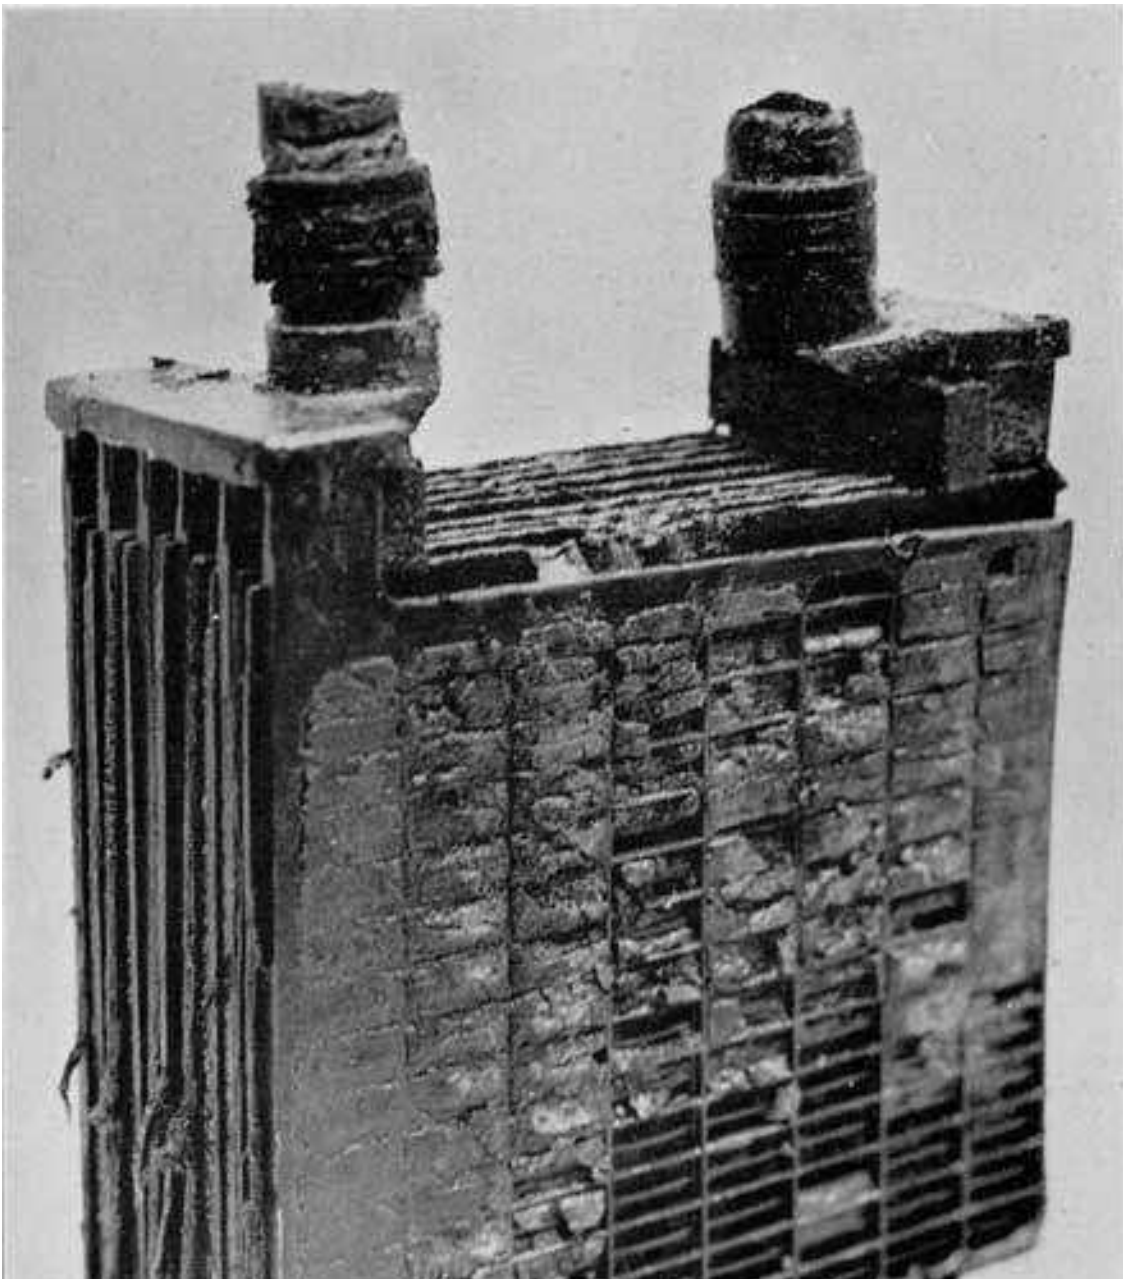

Fig. 212. Element from a "Slopper." Element was Loose in Jar. and Jolting of Car Caused Paste to Fall Out
**8. If a battery case is not held down firmly**, or if the elements are loose in the jars, the plates will jump around when the car is in motion. This will break the sealing compound on top of the battery, and cause the battery to be a slopper. The active materials will be shaken out of the grids, as shown in Fig. 212, and the plates will wear through the separators. New plates are required.